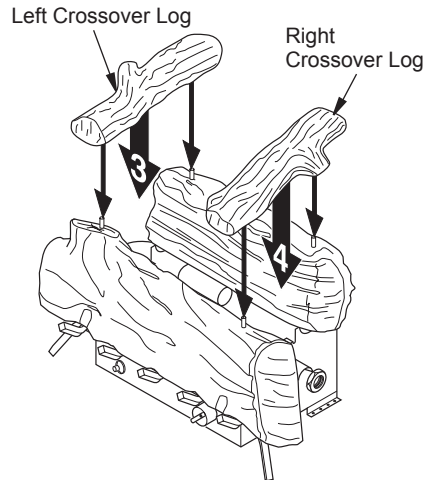

Figure 29 - Installing Left and Right Crossover Logs
3. Place the left and right crossover logs on top of the back log and front log. Make sure pins on front and back are inserted into holes on crossover logs (see Figure 29). Crossover logs must be placed as shown in Figure 29 or the holes will not seat onto the pins.